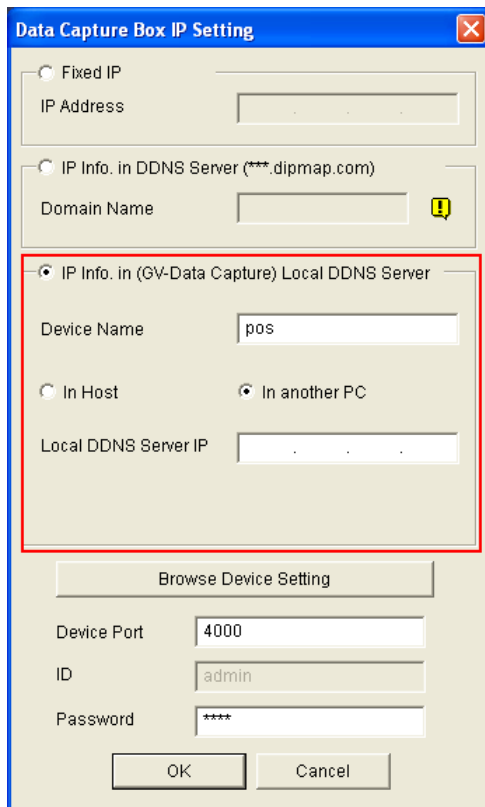

Figure 20
5. In Device Name field, keep the default setting or change it to match that of the GV-System (see *Figure 20*).
1. Click the **Browse Device Setting** button (see *Figure 20*) to see the IP address on the IE browser.